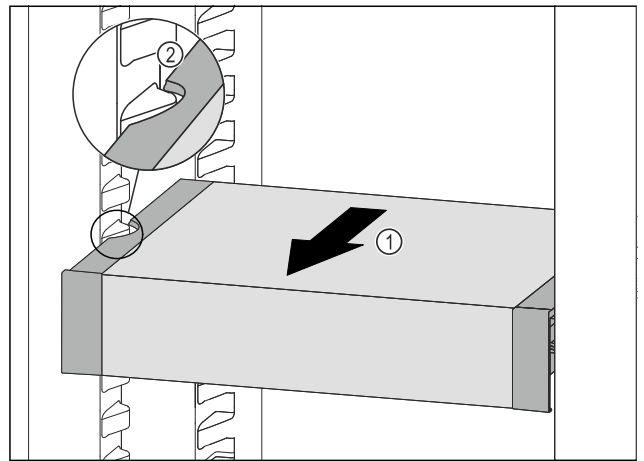

Fig. 108
- ▶ Pull VarioSafe forwards Fig. 108 (1) until the recesses in the side of the VarioSafe are at the level of the support rib in the fridge section. Fig. 108 (2)